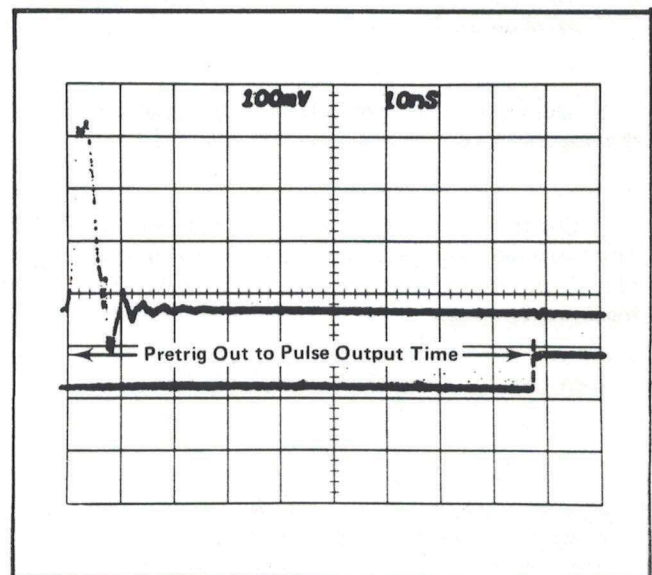

Fig. 5-3. Double exposure photo showing the PRETRIG OUT to PULSE OUTPUT time interval.
f. Check the position of the leading edge of the displayed PULSE OUTPUT signal to be 85 ns within 5 ns from the left edge of the graticule. See Fig. 5-3.